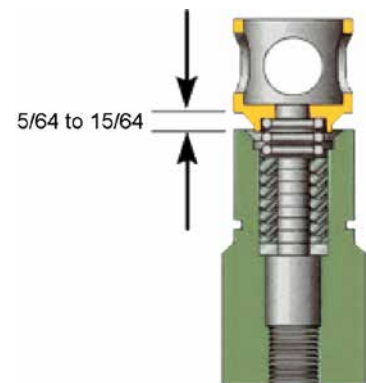

FIGURE 6.
5. Fit the spring washer, spring, and spacer over the packing as shown. Maintain $8/64$ " to $15/64$ " spring compression by removing no more than one packing chevron and/or adding spacer washers above or below the spring (Figure 6).